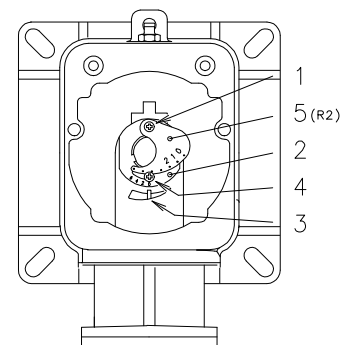

Fig. 15
Installation operations are now at the stage where the blast tube and sleeve are secured to the boiler as shown in Fig. 15.
- Turn screw 4)(Fig. 15) until the notch identified is aligned with the front surface 5) of the connector.
In order to facilitate adjustment, loosen screw 6)(Fig. 15), adjust and then tighten.
- Loosen the 3 screws 1)(Fig. 15) and turn ring 2) until the notch identified is aligned with index 3).